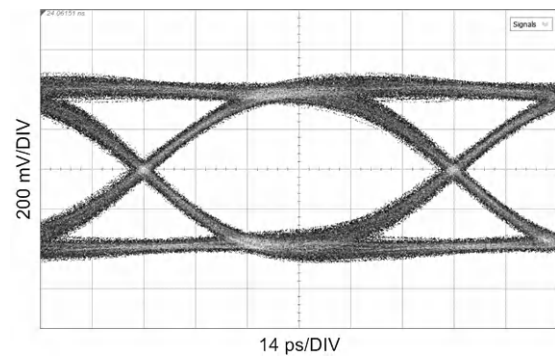

图 7-5. CD Mode at 11.88 Gbps, Measured at SDI_IO+, 20-in. FR4 Before IN0±
- (1) This parameter is measured with the LMH1297EVM (Evaluation board for LMH1297).
- (2) This limit is ensured by bench characterization and is not production tested.
- (3) V_{OVERSHOOT} overshoot/undershoot maximum measurements are largely affected by the PCB layout and input test pattern. The maximum value specified in Figure 7.5 for V_{OVERSHOOT} is based on bench evaluation across temperature and supply voltages with the LMH1297EVM.